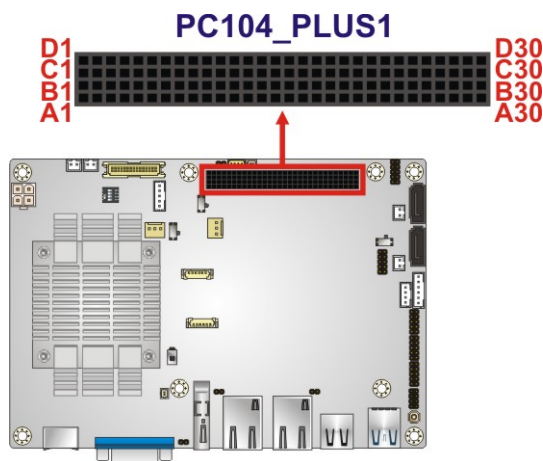

Figure 3-19: PCI-104 Connector Location
- CN Location:** See **Figure 3-19**